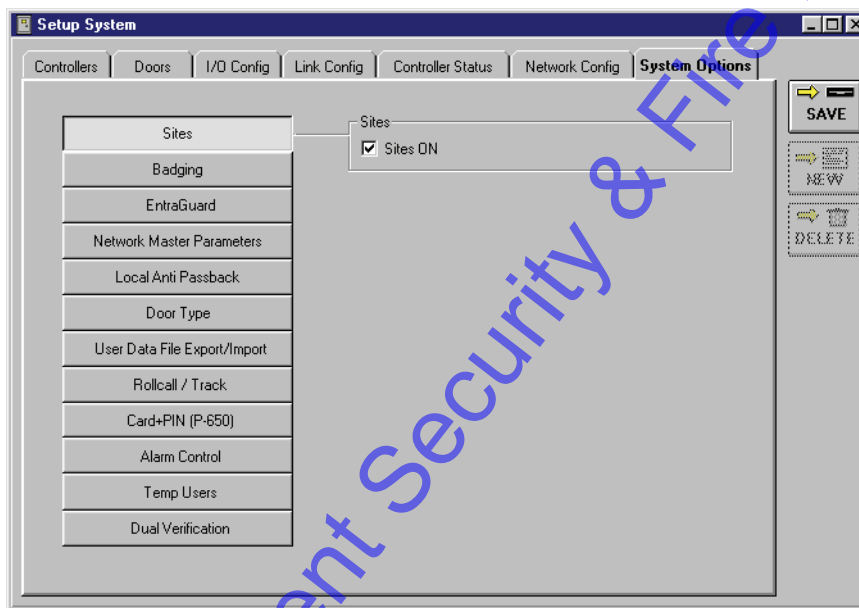

Figure 8-4: System Options Tab - Sites Enabled
6. Changes are made in both the System Options and Network Configuration tabs, removing the configuration parameter fields for the remote modem. The modem parameter fields have been moved to a new Sites tab and reformatted to allow for parameter entry for each site (see Figure 8-4).